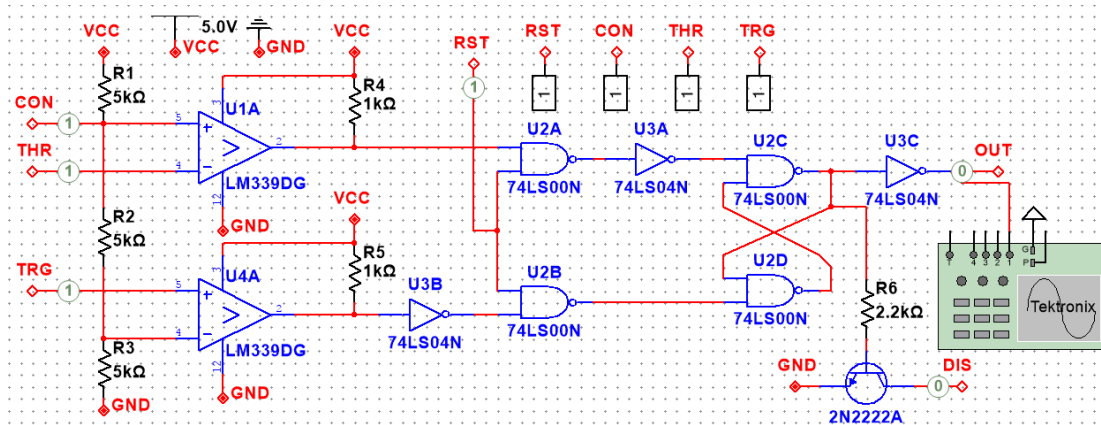
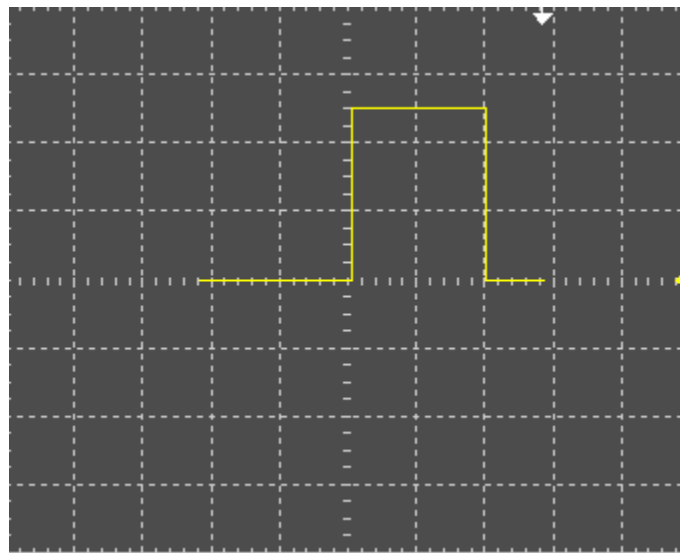

Figure 15: DIY 555 Timer Circuit
Figure 16: DIY 555 Timer Circuit Output
4. In procedure 4, we use the same circuit from procedure 3, but we are changing the temperature coefficient (TC1) to 0.001 and simulating a linear temperature sweep at 0°C, 50°C and 100°C. Below, we can see our results, 0°C (Figure 14), 50°C (Figure 15) and 100°C (Figure 16). Below, we compile all of our measurements. The math for finding frequency can be found in the description of each Figure in this procedure. This makes sense, that we are seeing as the temperature goes up, the frequency value gets smaller (or slower in the time domain). This is a concept we learn in physics, that as electrical systems are warmer, the speed of the flow through them increases. This is why superconductors only work at extremely low temperatures.
5. In procedure 5, we are tasked with building the DIY 555 timer in Multisim, that is given to us in the lab instructions. In Figure 15, we can see the finished circuit and in Figure 16, we can see that it operates in the expected way that a 555 timer does. We have seen these in previous classes and we can use the data sheet of a 555 timer to compare. We know that when RST is high, CON is high, THR is low, we should always see a high OUT, no matter what TRG is. Whenever RST is low, OUT is always low. This is why digital inputs are connected, to test all possible combinations, which was successful.